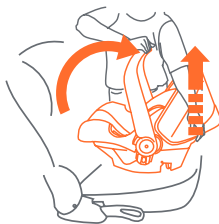

Fig. 51-1
3. Rotate handle to the carry position (Fig 51.1).
4. Remove Car Seat, (Fig. 51-1).